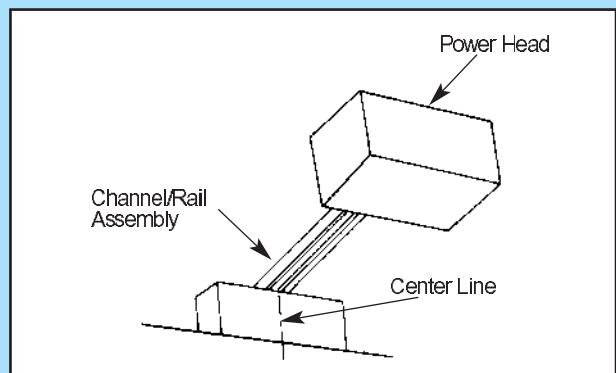

Fig. 2-5
5. Level rail assembly and power head (Fig. 2-5).